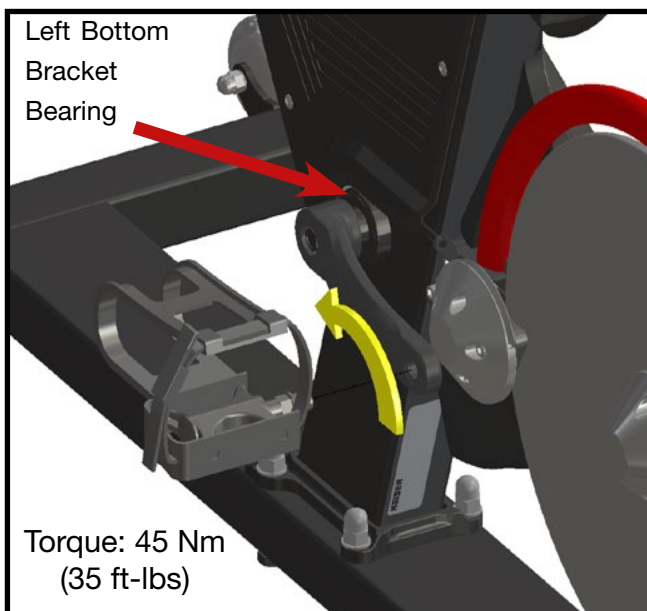

Figure 9. Installing the Left Pedal, Turn Counter-Clockwise
- Left Pedal** - Thread the left pedal (marked L) into the left side of the left crank arm by turning it counter-clockwise, refer to Figure 9.